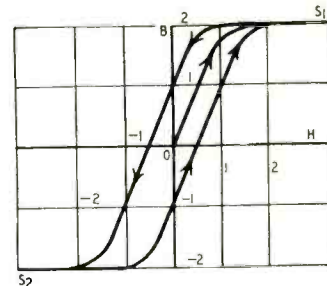

Fig. 1—The general hysteresis curve. The enclosed area and steepness of the curve are a measure of core properties.
Magnetic material is supposed to be composed of small permanent magnets, which in an unmagnetized piece of material are randomly oriented—that is, they point in all directions. Passing an electric current through a coil wound around the material magnetizes it—aligns the magnets so they all point in one direction. But if the current is turned off the material does not go back to its unmagnetized state. Many of the minute permanent magnets remain lined up and give the material more or less *residual magnetism*. It is necessary to pass current through the coil in the opposite direction to *demagnetize* the material. This is shown in Fig. 1.
The enclosed area and width of the curves in Figs. 1 and 2 are a measure of the hysteresis, or magnetic friction, of the material. The best material for magnetic amplifiers is the one with the narrowest curve. Note, Fig 1, if the material were perfect, the curve which started from zero and went up to 2 as H increased would decrease in exactly the same fashion. That is, by the time the coil current (NI) which produced H had sunk to zero, the magnetism B would be at zero also. Then the B - H curve would be a slim line. But, the higher on B the curve is when H reaches zero, the stronger the negative H field (current in the coil in the opposite direction) will have to be before B goes to zero; the field will have to be stronger after the current in the coil has turned again, to bring B back to zero. This widens the curve.